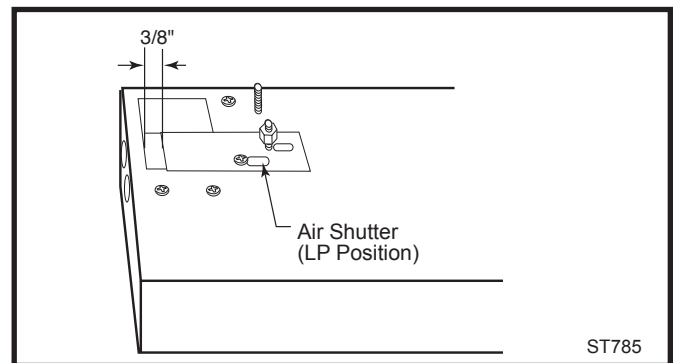
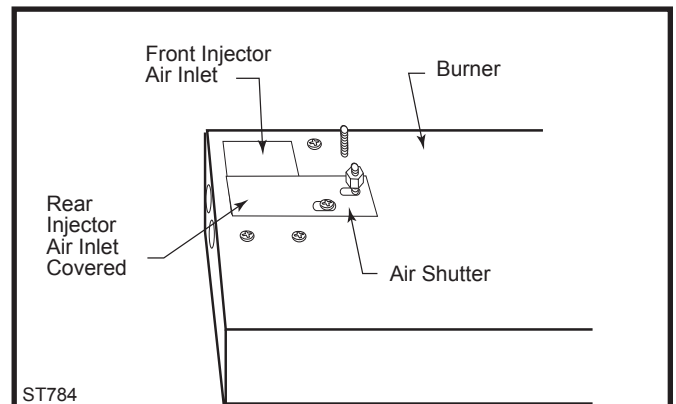

Fig. 32 LP air shutter settings.
Fig. 33 Natural gas air shutter setting.
16. Adjust air shutter on the burner. The air shutter is located on the bottom of the burner on the left. (Fig. 32) Loosen the two nuts holding the shutter in place. On natural gas units, the shutter is shipped fully closed. To convert to LP, reset the shutter as specified in Table 2. (Fig. 33) On propane unit the shutter
is set at 1/8" or 3/8" opening depending on rating plate serial number. To convert to natural gas, the shutter should be set to fully closed. Refasten the two nuts. (Fig. 33)